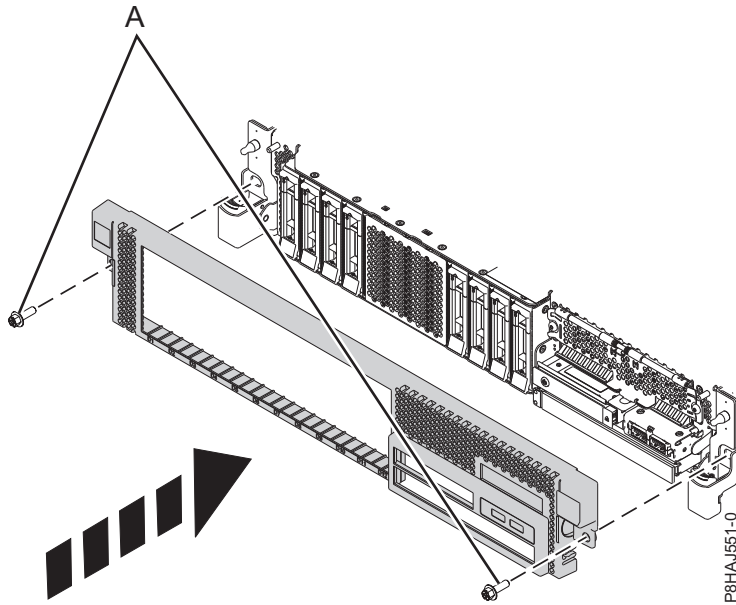

Figure 33. Installing the front cover
3. Close the release latches by pushing in the direction shown in Figure 33 on page 49. The cover snaps into place and has an indentation where you can hold onto it more easily.
4. Replace the shipping screws (A).